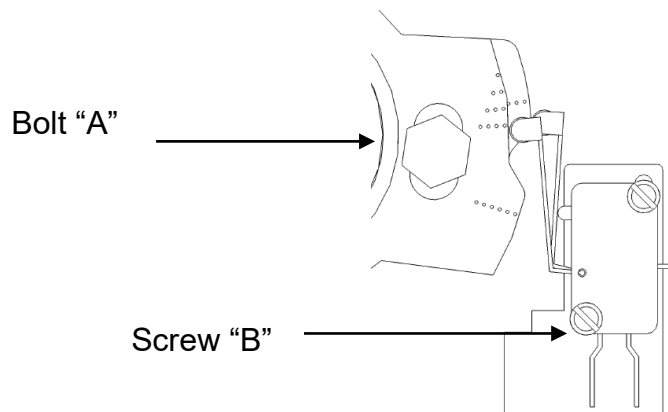

Fig. 2
4. Slacken bolt ("A" fig 2) and adjust cam plates until they are flush on the top.
5. Slacken screws ("B" fig 2) to adjust switches; the lever arm must rise on the cam as shown sufficiently to make the circuit. The switch will give an audible click, if necessary, bend the lever arm towards the cam to ensure the switch makes a circuit.